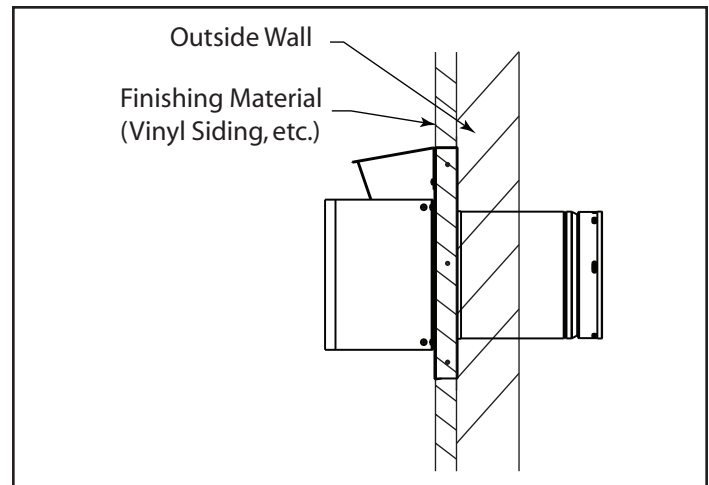

Figure 3.1 - Termination cap on wall
- Termination cap **MUST NOT** be recessed into a wall, Figure 3.1.